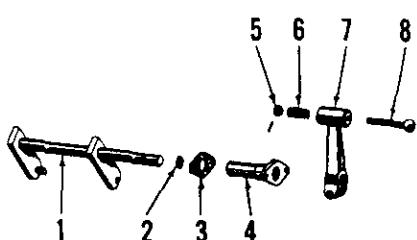

Fig. 131—Exploded view of the dual speed shifter located on right side of the clutch housing.
To remove the pto dual speed shifter, remove countershaft as outlined in paragraph 188. Loosen pinch bolt and remove operating lever (7—Fig. 131) from shaft. Remove bracket (4), shifter